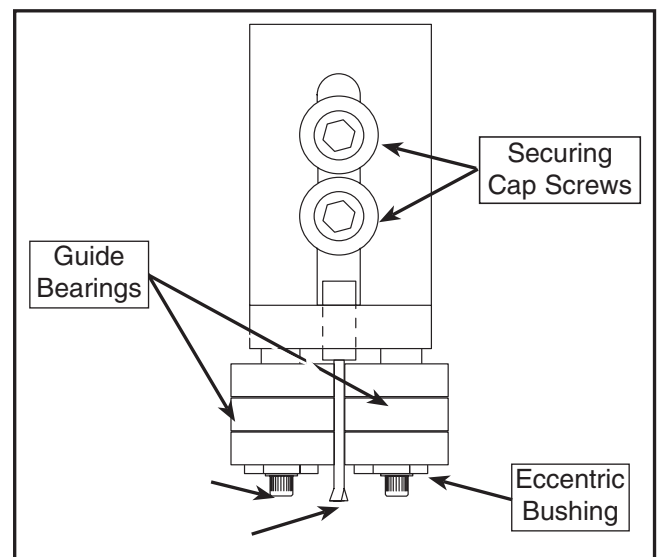

Figure 6. Guide Bearing Adjustments.
- 2. Guide Bearings** - The guide bearings ride on either side of the blade and ensure that the blade is not pushed too far laterally. To adjust the guide bearings, loosen the cap screw at the bottom of the bearing assembly. Use an open end wrench to move the brass hex nut which is an eccentric bushing. Turning the hex nut will move the bearing assembly into or away from the blade. When the bearings are just touching the blade, tighten the cap screw. Repeat this procedure for all four guide bearing assemblies. The bearings should be able to be rotated by hand while still touching the side of the blade. **See Figure 6.**